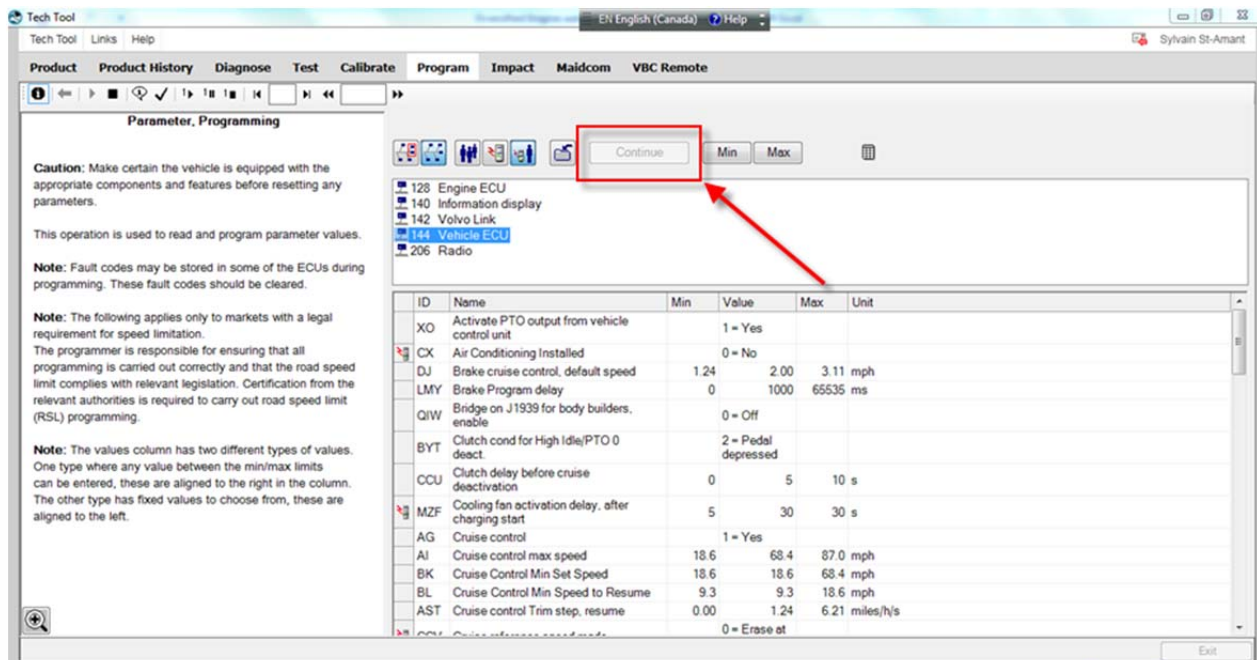

FIGURE 34
6. Click on CONTINUE (FIGURE 34).